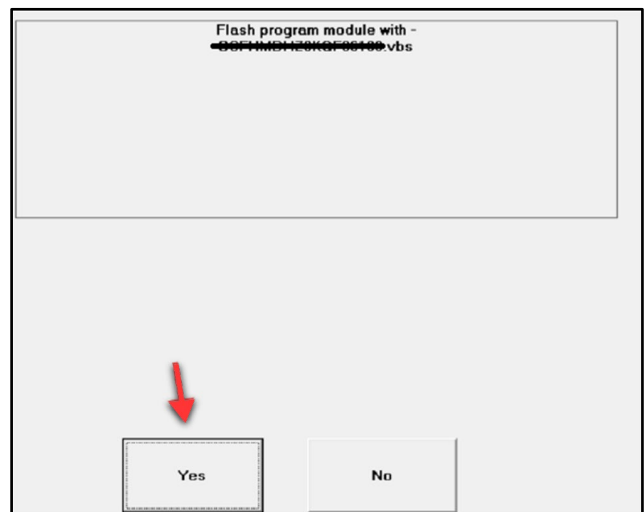

Figure 8
- 13. In the final pop-up window click “Yes” (refer to Figure 8). The Car Config file will be updated.